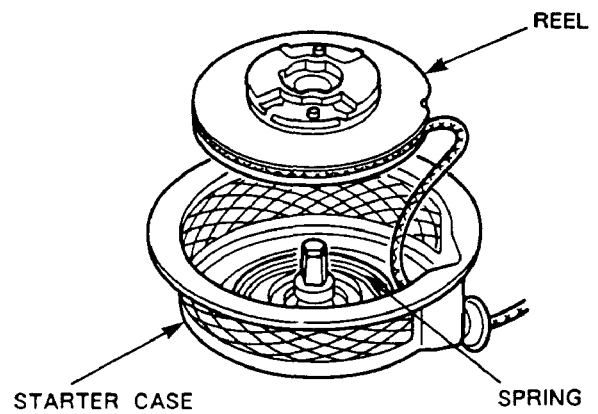

FIG. 81
(4) Take out the reel from starter case as shown in Fig.81.